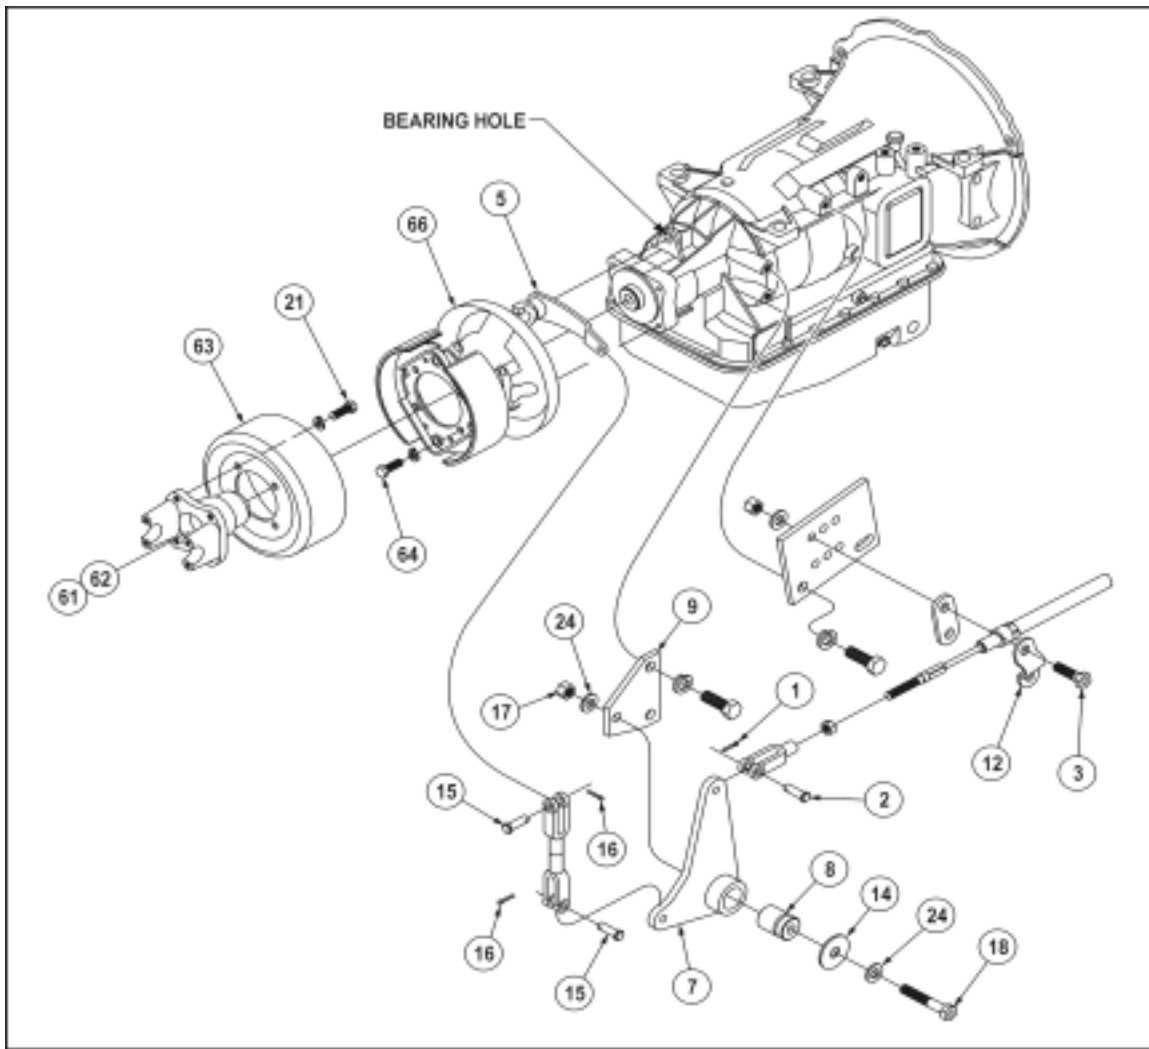

Figure 1—AT 545 Transmission
*There is no need to disassemble the mechanical park brake to remove the Allison 545 transmission. Simply remove cotter pin (1) and clevis pin (2) to remove the cable clevis, and then remove capscrews (3) to release the cable assembly. See **Figure 1**. After disassembly of the yoke/driveline connection, the transmission can be removed without further disassembly of the mechanical park brake. See Section 160—Transmission.*
1. Remove capscrew (3) from two places, as necessary. **Figure 1**.
2. Remove cable clamp (12).
3. Remove cotter pin (1).
4. Remove clevis pin (2).
5. Remove cotter pin (16) in two places.
6. Remove clevis pin (15) in two places.
7. Remove nut (17).
8. Remove capscrew (18).
1. Install flat washer (24) onto capscrew (18). **Figure 1.**
2. Install flat washer (14).
3. Install Mechanical Park Brake Linkage Spacer (8).
4. Install Bellcrank (7).
5. Install Bellcrank assembly capscrew (18) into mounting bracket (9).
6. Install flat washer (24).
7. Install lock nut (17). Torque to non-designated fasteners torque specifications listed in Section 005—Introduction.
1. Remove capscrew (61) and flat washer (62). **Figure 1.**
5. Install the brake shoe/support plate assembly onto the Parking Brake Shield (66). **Figure 1.**
7. Install parking brake actuating lever (5) into the bearing hole. Carefully align the cam end of the lever to fit over the upper anchor pin of the brake shoes/support plate assembly. **Figure 1.**
9. To avoid distortion of the support plate, install capscrews (64) and lock washers. Snug up all four capscrews, and then in small increments (using a 180°/90° or "cross" pattern), torque the capscrews to 81-97 ft-lbs (9.15-10.95 Nm).
11. Install capscrew (61) and lockwasher (62). Torque to 110 ft-lbs (12.42 Nm).